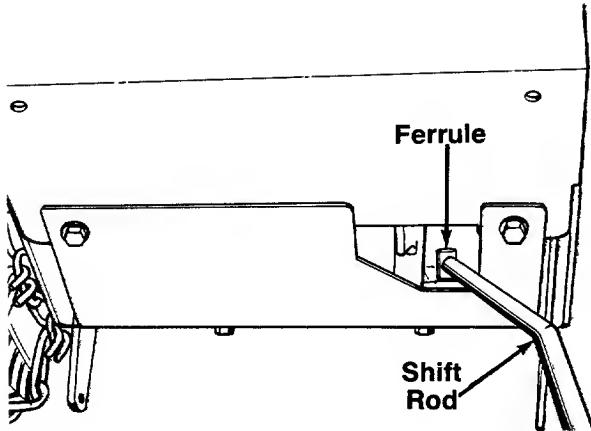

FIGURE 9.
1. Place the threaded end of the shift rod inside the back cover plate. See figure 9. Thread rod partly into ferrule.